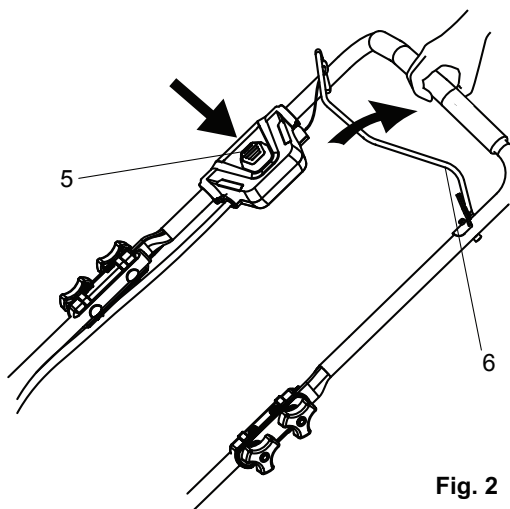

Fig. 2
The slip clutch (see Item (1) in Fig. 2) serves as overload protection and should be tightened in the event of faults (slipping of the slip clutch (1) during operation) (see enclosed RUFLEX installation instructions).
Every six months the slipping clutch must be refilled with grease via grease nipples (see Item (2) in Fig. 2).
See Figure 2